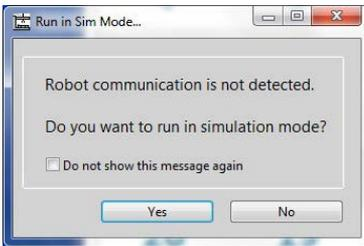

Fig. 15 — If the robot is not properly connected, this message appears.
**NOTE:** If the **REMS** robot is not connected, a message (Fig. 15) appears asking if you would like to run in simulation mode. Simulation mode is designed to evaluate electrodes during electrode performance testing. See "Multi-Concentration Electrode Performance Testing" on page 24. To troubleshoot the communications error, see "Troubleshooting" on page 30.